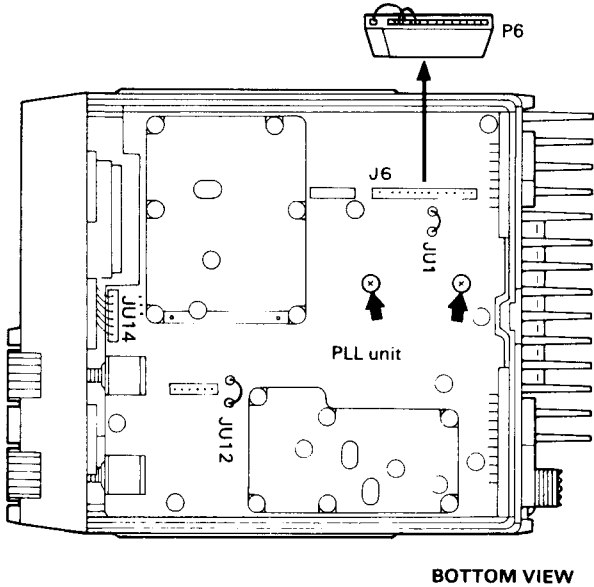

Fig. 3-1
- 1: Writing a frequency into PROM (Fig. 3-1)